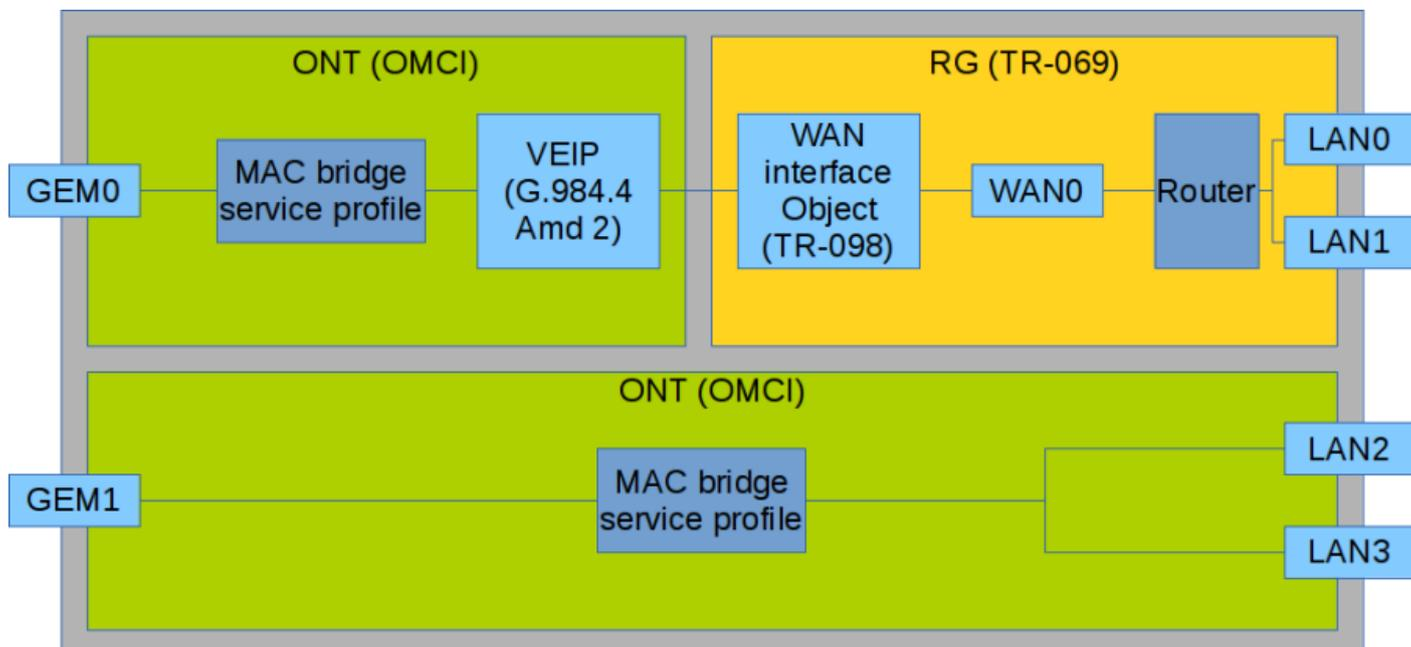

Figure 41 – Services configuration in ONT and RG domains
Consider an example of ONT configuration, which simultaneously uses both management domains. Port numbers and the internal structure are shown in Figure 41.
- **Step 8.** Configure a ports profile. According to Figure 41, we need to associate the first two LAN ports with the RG management domain, while the other two should be associated with the OMCI domain and bound to bridge 1.